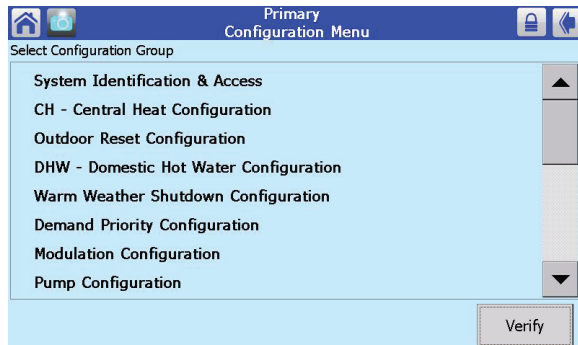
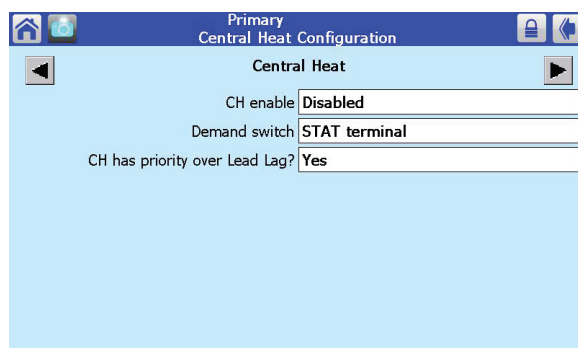

Fig. 39 - Configuration Screen
Fig. 40 - Central Heat Configuration
- Press the Configure button to start a configuration session for the selected controller. See Fig. 39.
- Next, we will show you how to change one of these parameters. Let's turn on the Central Heat function. On the Configuration Screen (Fig. 39), scroll down and press the line for CH – Central Heat Configuration. Figure 40 shows the screen which follows.